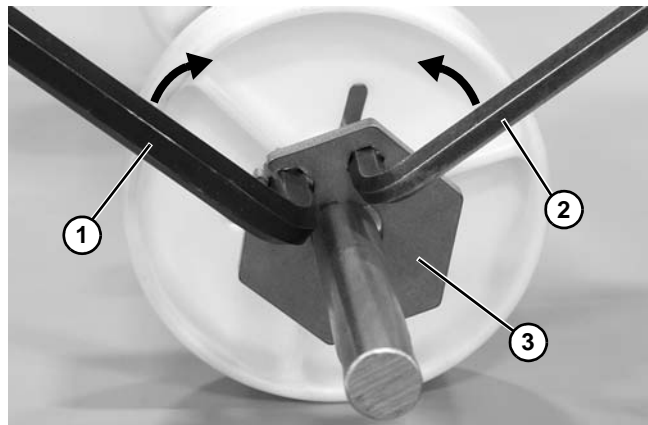

Figure 120
- a. Insert an 8 mm (**Figure 120, item 1**) and 6 mm (**Figure 120, item 2**) hex wrench into the retainer plate.
- b. Move wrenches toward each other to open the retainer plate (**Figure 120, item 3**) and install onto the shaft. Position retainer plate where needed.